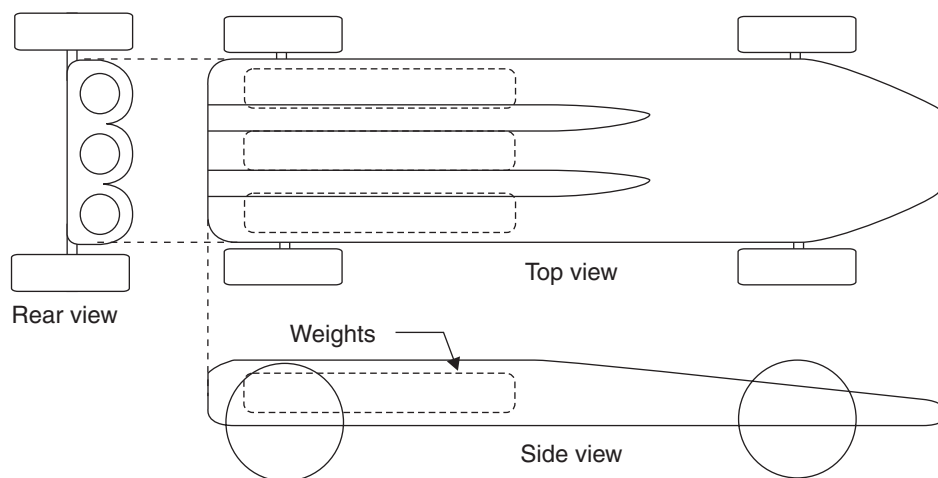

Figure 8. Car design.
- Store the car on its back or on a small stand to prevent the minimize the chance of the wheels being knocked out of alignment. Note this doesn't work for the car in figure 8, it is so thin it will roll on it's back, we store our cars up on blocks of wood with the wheels up in the air.